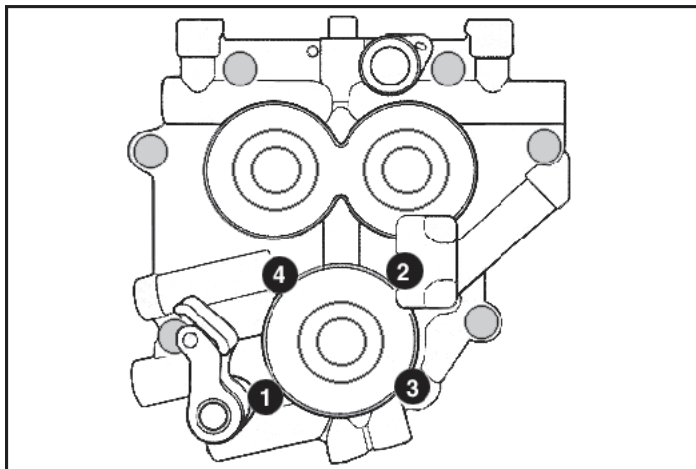

Figure 1
5. Following sequence shown in **Figure 1**, alternately loosen and remove oil pump bolts.
- Install oil pump mounting bolts with a drop of blue thread locker according to procedure found in factory service manual: Gently bottom screws, then back them out 1/4 turn. Center oil pump by rotating engine by hand while snugging down screws. Alternately tighten bolts to 95 in-lbs. torque in sequence shown in **Figure 1 on Page 4**. Before proceeding with installation, verify that inner cams rotate freely and no binding is present.